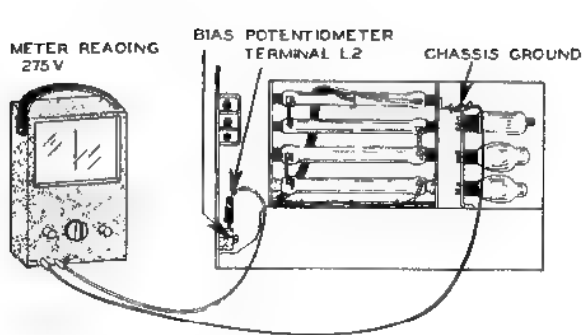

Figure 35A
- () If normal operation is experienced, use a Volt-Ohm-Milliammeter and check the voltage from the bias adjust potentiometer center arm terminal L2 to ground, which should read about -275 volts. Refer to test setup shown in Figure 35A. Use CAUTION in making this check.